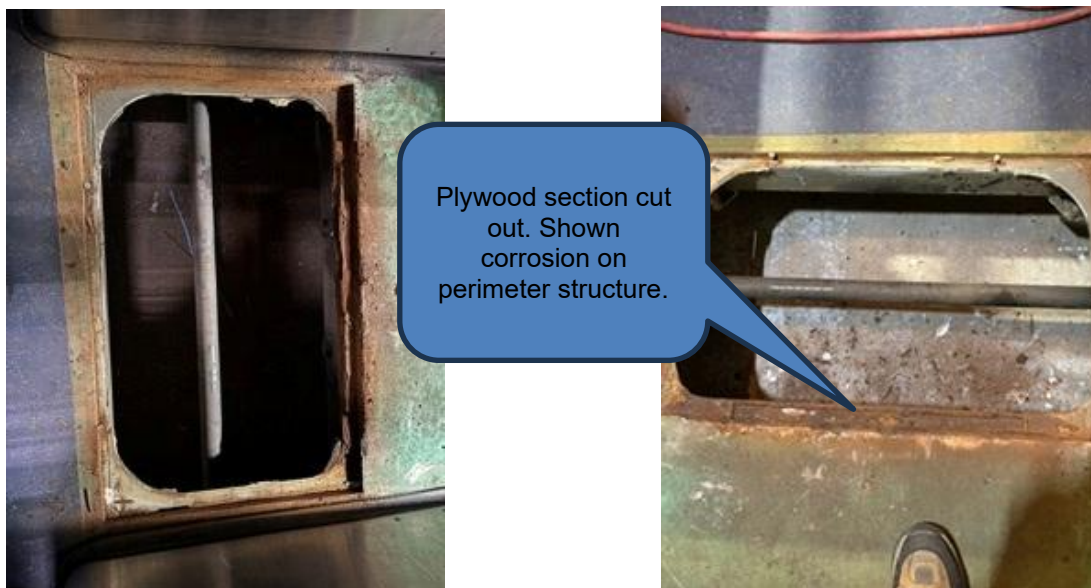

FIGURE 12: PLYWOOD SECTION REMOVED
20. Using an oscillation blade or equivalent tool, cut out the perimeter section of the plywood. Remove plywood piece. See Figure 12.